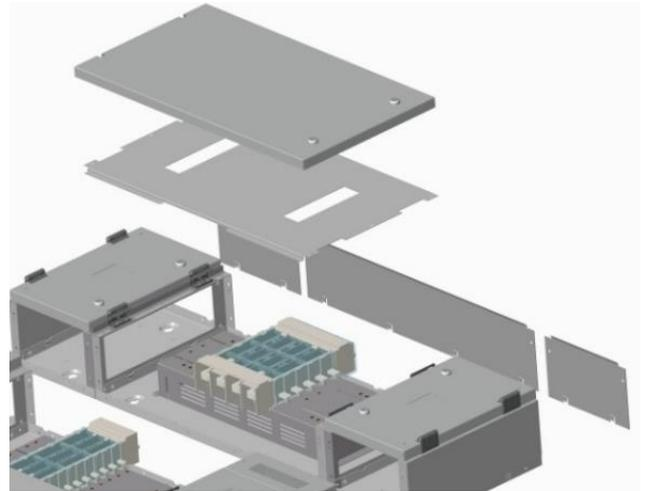

Fig. 3
- Once the shield, door and gland plates have been removed, start to assemble the add-on enclosure to the panelboard. Refer to Fig. 3.